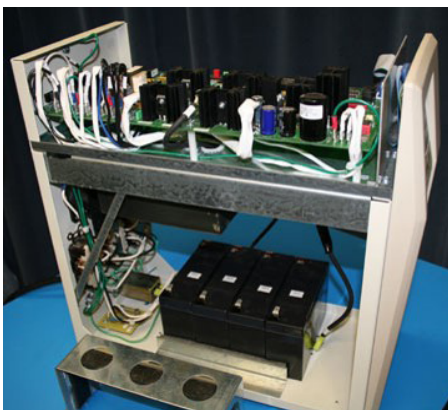

Fig 14.
14. Batteries are now ready to be removed. Note the position of the batteries at this time. Insure that the new batteries are placed in the same identical arrangement. Fig 14.